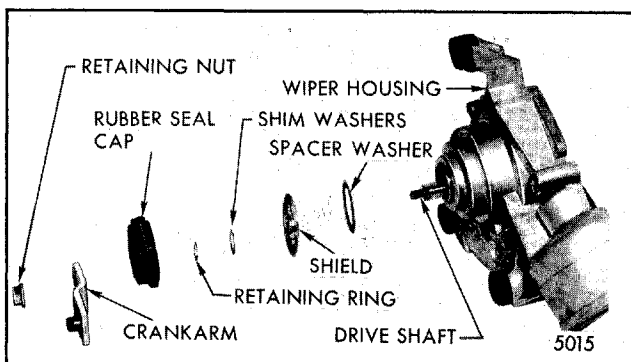

Fig. 2-46-Crank Arm Components - Exploded View
3. Remove crank arm, rubber seal cap, retaining ring, shim washers, shield and spacer washer in the order indicated (Fig. 2-46).
7. Reassemble the outer spacer washer, shield, shim washers as required to obtain 0.10 mm (.004"), plus or minus 0.05 mm (.002") end play, snap ring and rubber seal cap in the order indicated. Refer to Figure 2-46.
Add or remove shim washers as required to obtain 0.10 mm (.004") plus or minus 0.05 mm (.002") end play (Fig. 2-46).